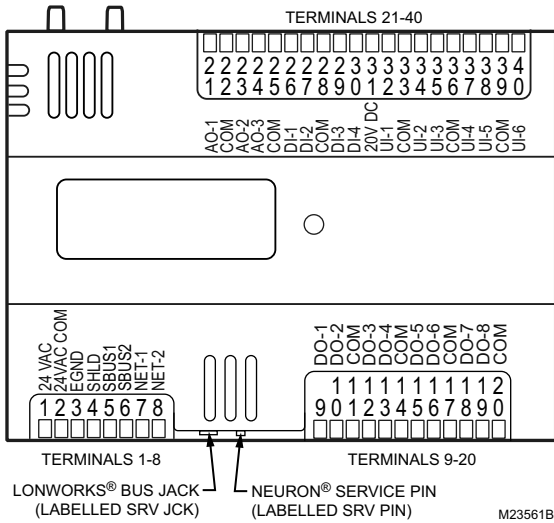
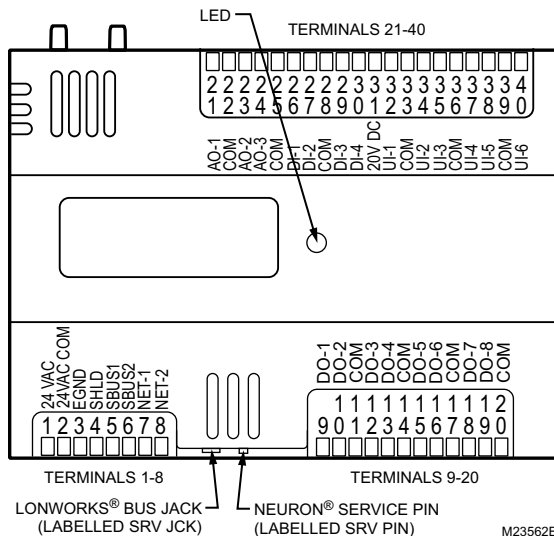

Fig. 16. Controller Terminal Connections, NEURON® Service Pin, & LONWORKS® Bus Jack for the PUL6438S, PVL6436AS, and PVL6438NS (PVL6438NS shown).
Fig. 25. LED, service pin, and network connection locations.
All controllers have the terminal arrangements similar to the examples shown in Fig. 16 and Fig. 17 as described in Table Table 6 on page 13 and Table 7 on this page.
The NEURON® Service Pin pushbutton (when pressed) transmits the Service Message to the network, regardless of the controller’s current mode of operation (see Fig. 16 and Fig. 17).
The LONWORKS Bus connection is provided by plugging the Serial LONTALK® Adapter (SLTA) connector into the LONWORKS® Bus Jack (see Fig. 16 and Fig. 17).
Refer to Fig. 25 and the following text for startup information.
- To send the Service Message from the controller, press the NEURON® Service Pin pushbutton on the controller (see Fig. 25 above, and Fig. 16 and Fig. 17 on page 14). This button sends out the Service Message when it is pressed, regardless of the controller’s current mode of operation.